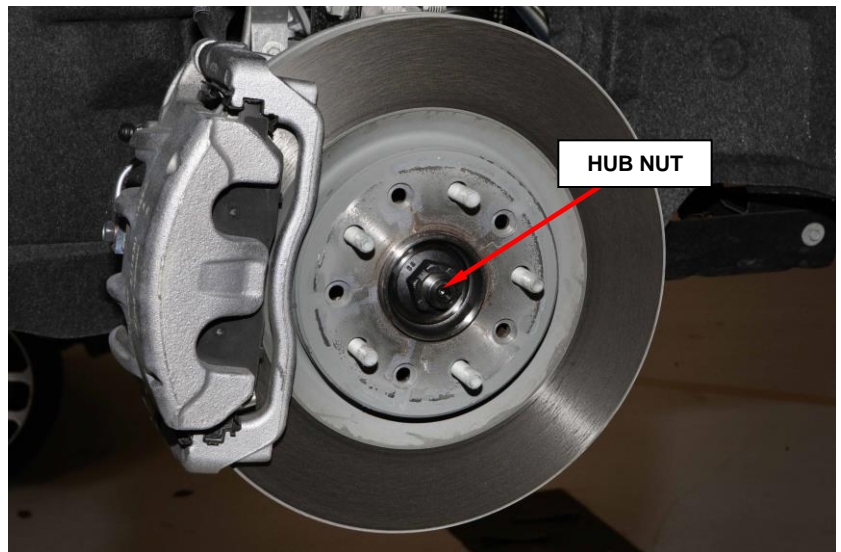

Figure 2 – Hub Nut
2. While a helper applies the brakes to keep the hub from rotating, remove and **DISCARD** the hub nut from the halfshaft (Figure 2).